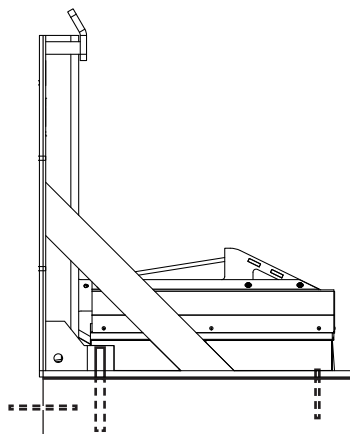

Figure 14
At rear of PowerStop, drill 1-1/8" dia. x 7" deep holes and install two (2) 1" dia. adhesive anchors. At front of PowerStop, install two (2) 3/4" dia. x 5-1/4" min. wedge anchors. See Figure 14.